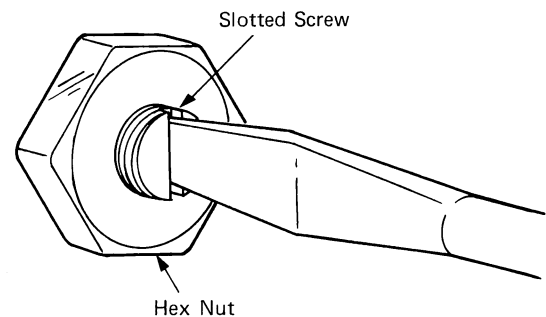

Fig. 17-13 Adjustment of clutch release mechanism
2. Loosen the clutch adjuster lock nut at the release mechanism (Fig. 17-13).